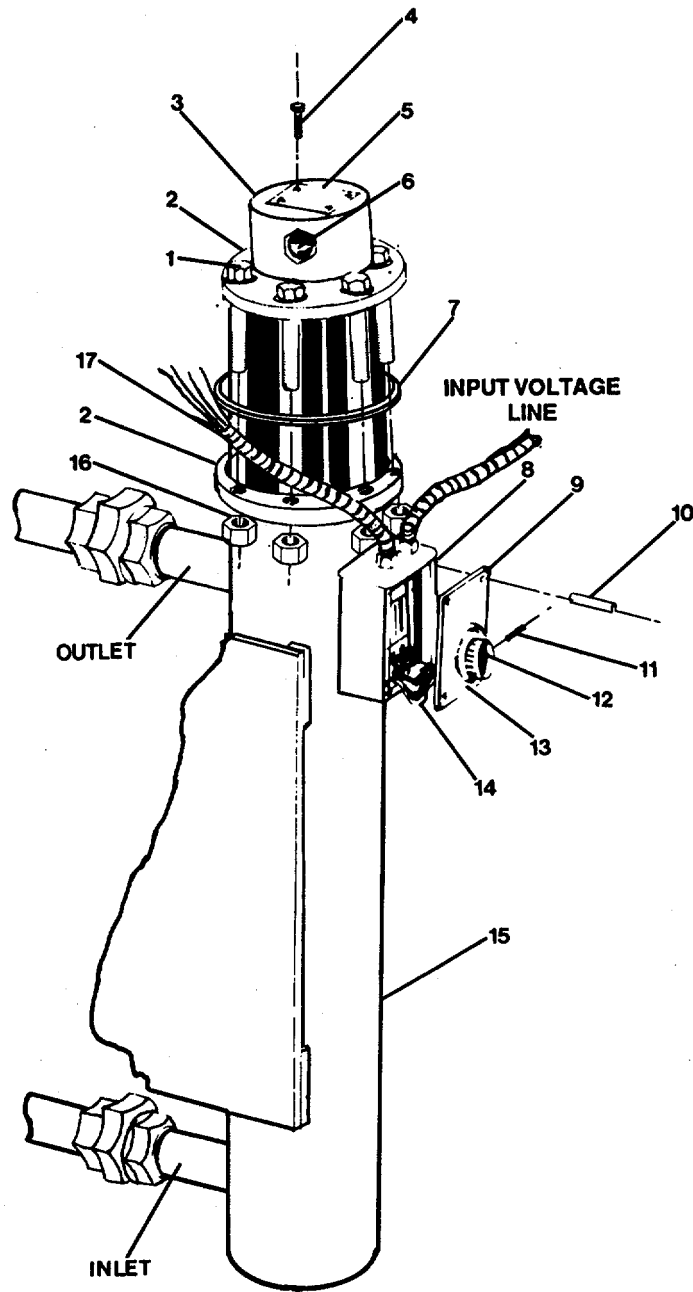

FIGURE 4-7. Heater Element Assembly.
- h. Fill gearbox with oil to slightly below full mark on sight glass (17). (See LO 55-1905-223-12).
**4-17. Repair Circulation Heater. (Figure 4-7)**